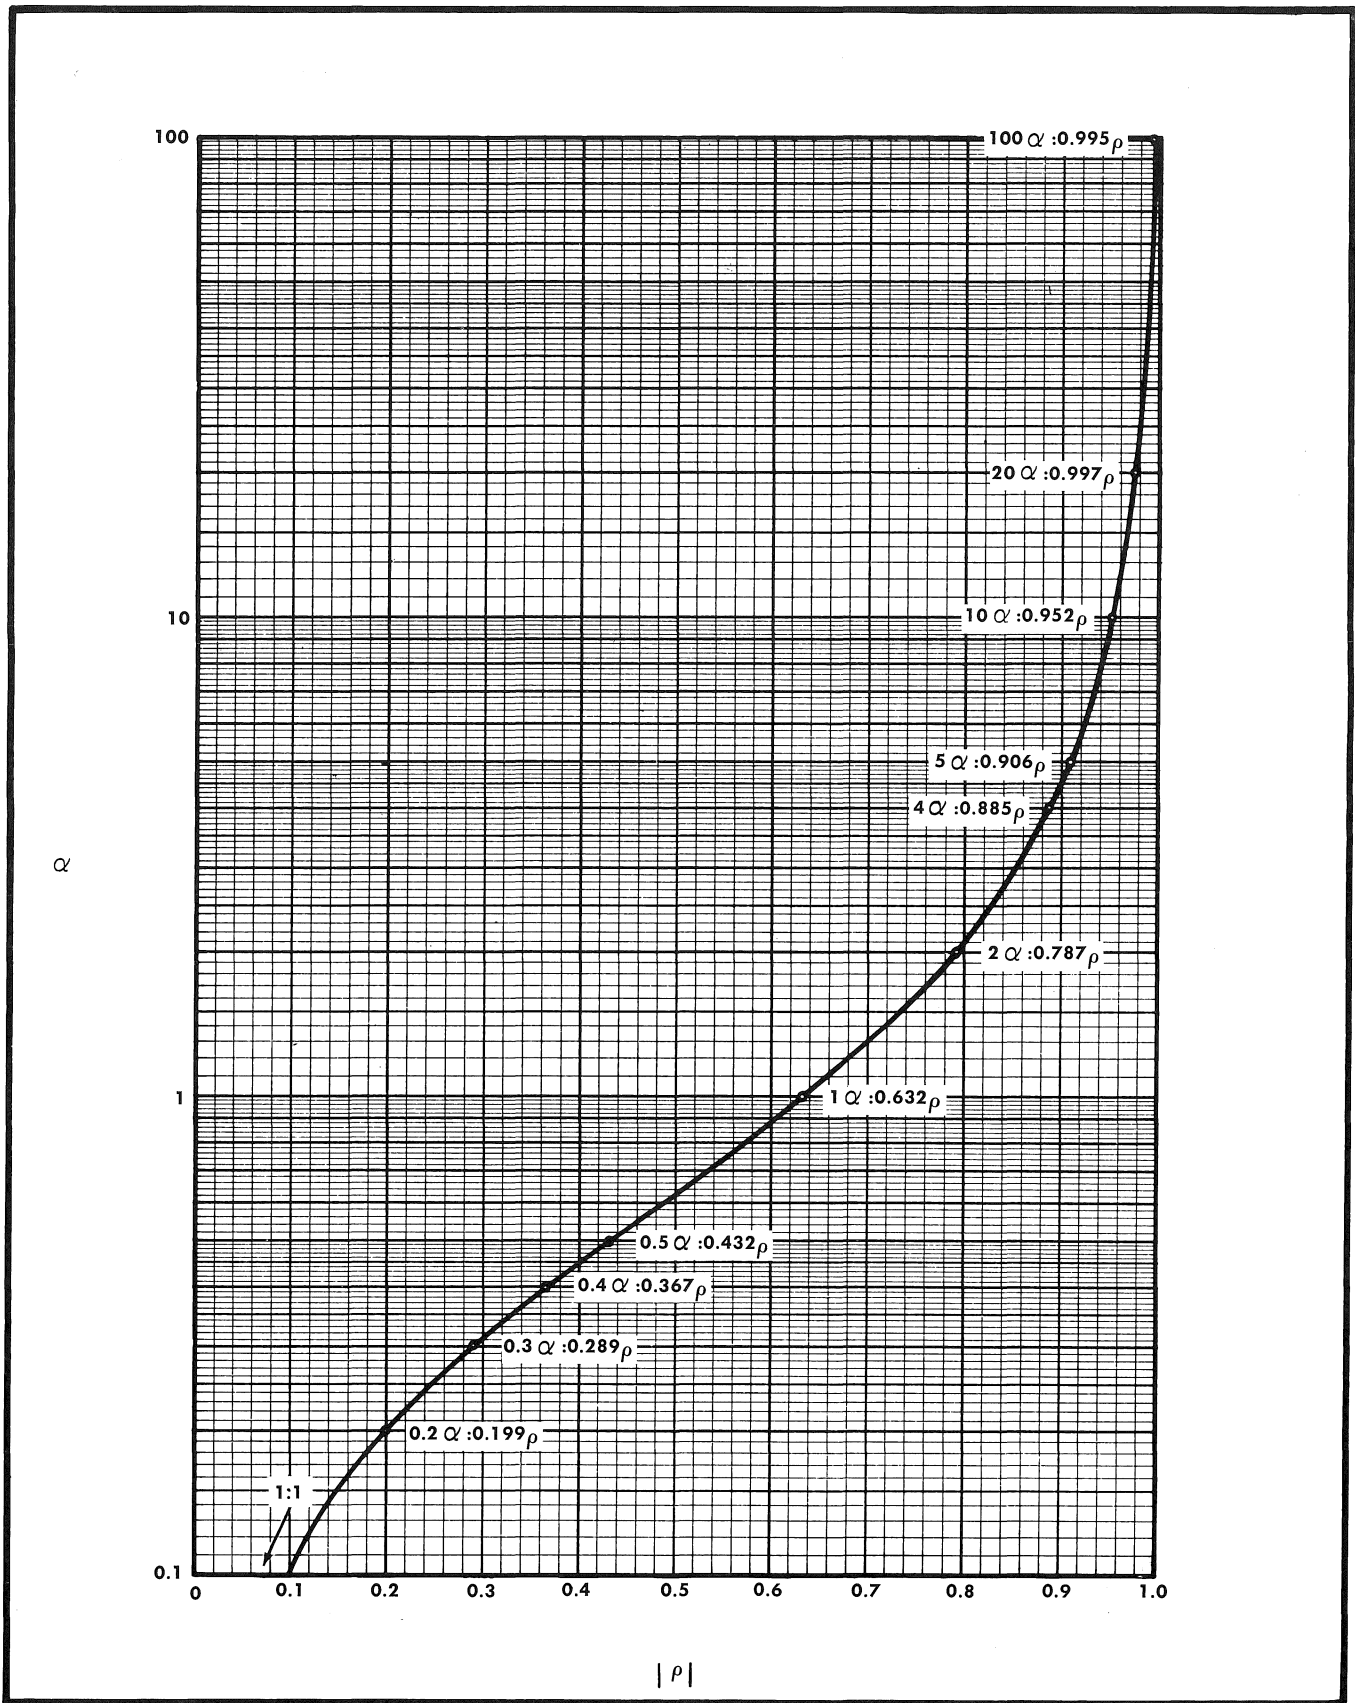

Fig. 2-14. Graph for conversion of small reactance observed ρ to α for use in formulae (10) and (12).
where L is in henries, Z_o is in ohms, t_r is the system 10% to 90% risetime in seconds, and α (as in formulas above and below) is a dimensionless coefficient related to the observed reflection coefficient ρ by either the graph or Fig. 2-14, or formula (11).
The waveform of Fig. 2-15B has an observed deflection coefficient of +0.58. From the graph of Fig. 2-14, 0.58 ρ is equal to 0.82 α. The risetime of the system was found to be 160 ps by disconnecting the insertion unit in which the inductor was located and measuring the reflection signal risetime. These figures placed into formula (11) give a value for the series inductor of 16.4 nH ($1.64 \times 10^{-8} \text{ H}$). This correlates very well with the previous parallel measurement.
Calculations made from Fig. 2-18A and B using formula (11) and the curve of Fig. 2-14, indicate the series coil has an inductance of 16.40 nH at Fig. 2-18A and inductance of 16.51 nH at Fig. 2-18B. (Fig. 2-18A: $L = (2.5)(0.82)(50)(1.60 \times 10^{-8}) = 1.64 \times 10^{-8} \text{ H.}$) (Fig. 2-18B: $L = (2.5)(0.66)(50)(2.0 \times 10^{-8}) = 1.651 \times 10^{-8} \text{ H.}$) This indicates that an inductor in series with a coaxial transmission line can be accurately measured so long as the risetime of the ramp portion of the incident signal can be measured. Fig. 2-18B indicates that a cable of RG8A/U a bit longer than 550 cm might make it difficult to measure the ramp risetime from the display. If a cable has sufficient length to prevent a reasonable display to measure the ramp 10% to 90% risetime, the small series inductor cannot be measured.